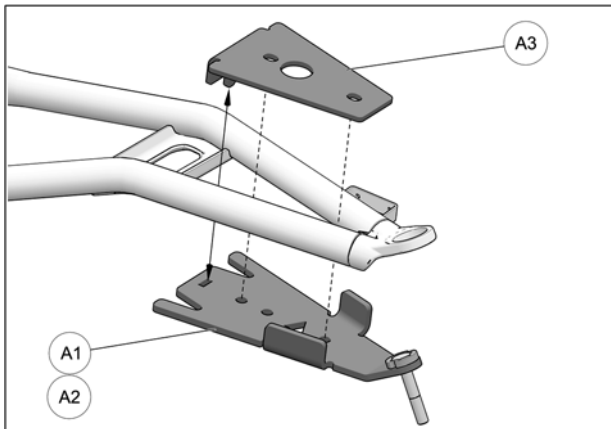

Fig. 15
- Position bottom part of anchor bracket (**A1-A2**) assembly under front lower suspension arm, as shown in the figure below. Position bracket cover (**A3**) over suspension arm and align holes in cover and bottom part. See Fig. 15